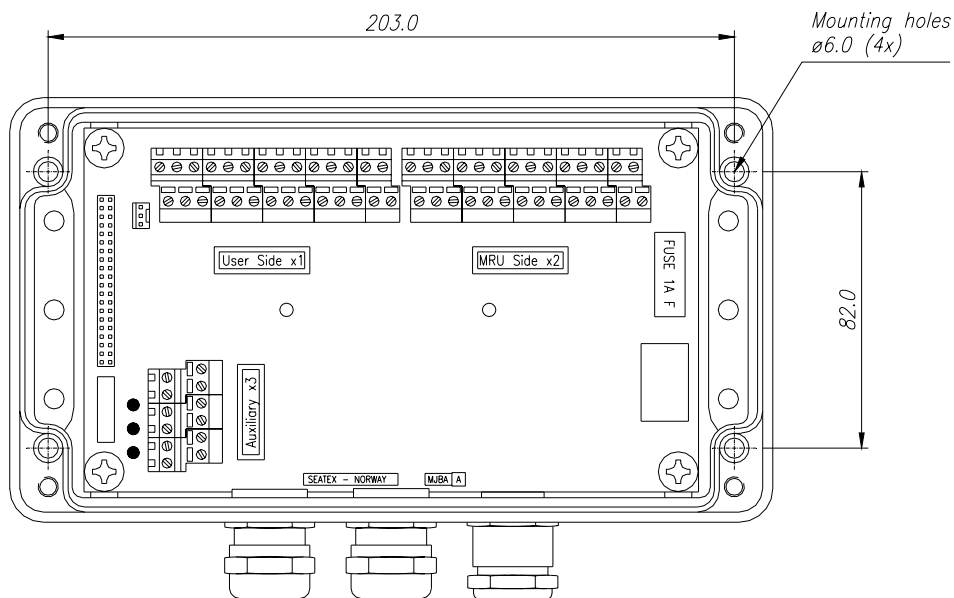

Figure 8 Junction box mounting
5. Mount the junction box on the wall in a suitable location within the length of the 3-metre MRU-E-CS1 cable, as shown in Figure 8. The screws for mounting the junction box should be secured with washers or self locking nuts.